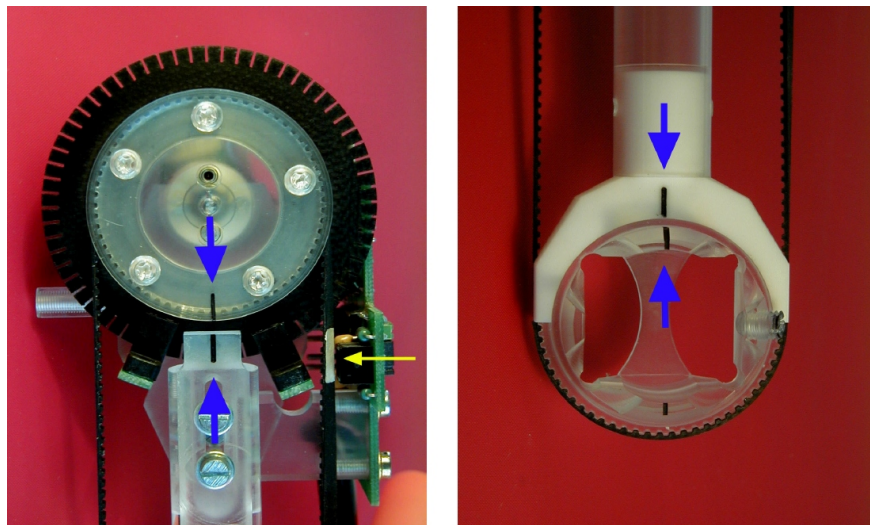

Figure 5: Position marks
- Proper position of all three position marks are shown in Figure 5.